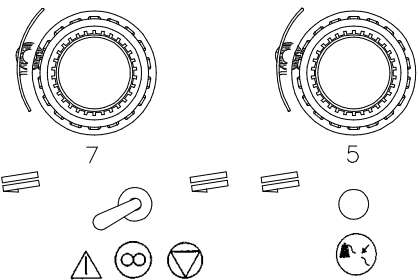

Figure 4-2
△ (ON), ∞ (AUTO), and ▽ (OFF) positions (see Figure 4-2). The switch controls whether the individual head stitches as it moves through a design. The table below summarizes the functions of the switch.
Next to each Thread Break Switch is an LED that signals a thread break (refer to Figure 4-2). When a thread break is detected, the LED on that head will be illuminated. A blinking LED indicates an under-thread break while a steadily glowing LED indicates an upper-thread break.